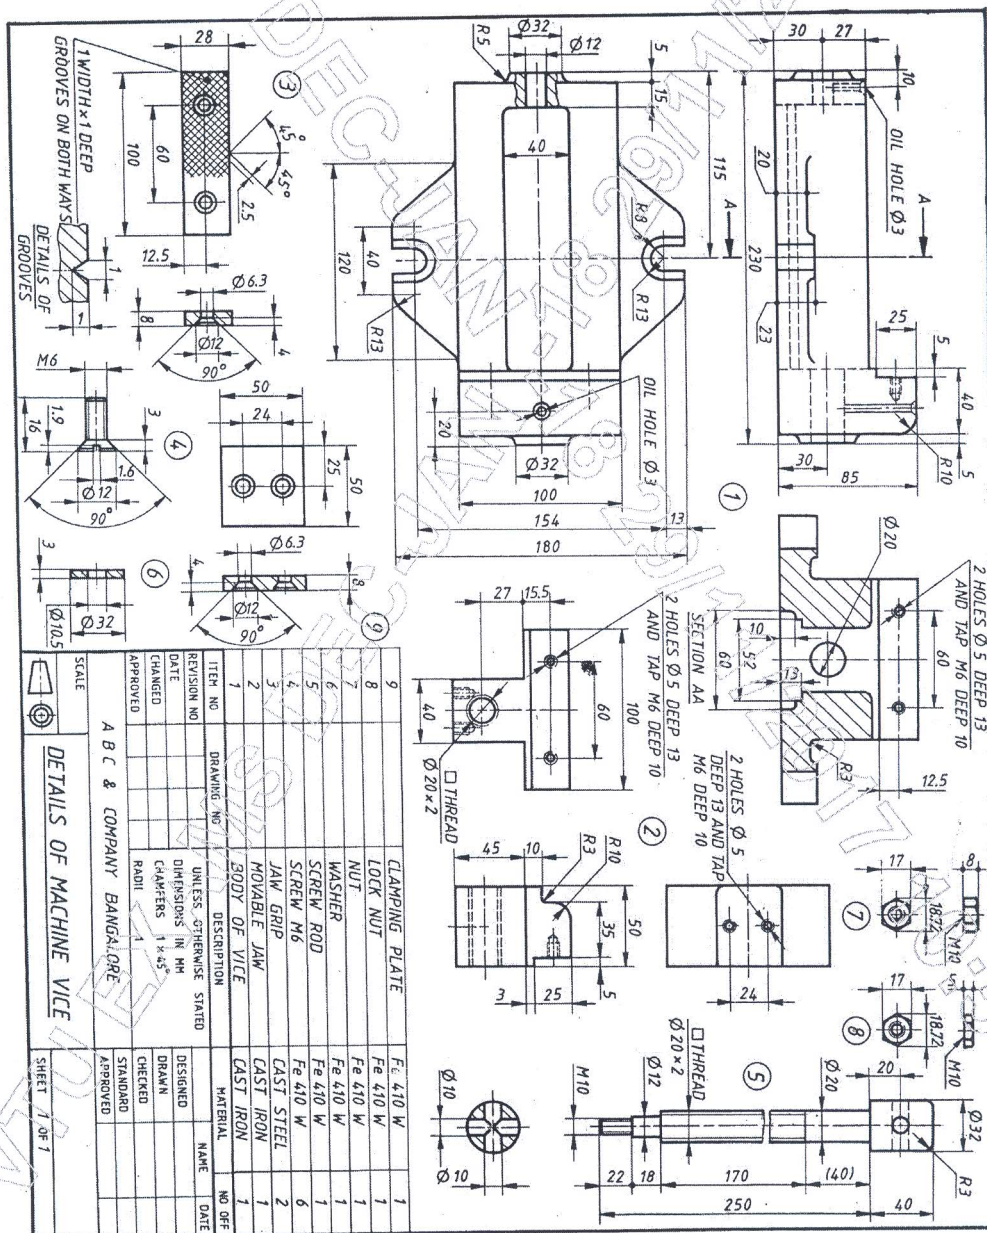

Figure 2
- The details of machine vice are shown in figure 2. Assemble the parts and draw the following views of assembly